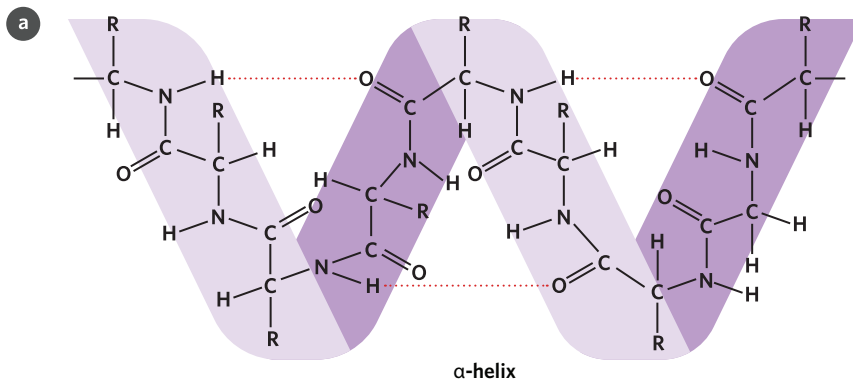

Figure 2.1 Hydrogen bonds (dotted red lines) create the secondary structure (a) α helix.
- The α -helix structure is stabilised by the hydrogen bonds formed between the oxygen of the C=O group in each peptide bond and the hydrogen of the N–H group in the peptide bond four amino acids below it in the helix (figure 2.1).